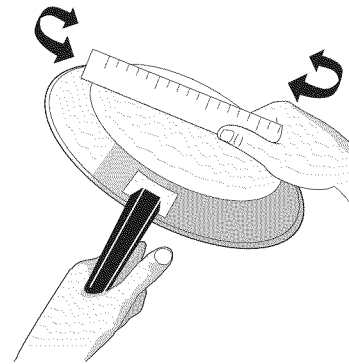

Fig. 2
The cookware used with the Induction Cooktop should have flat bottoms that make good contact with the entire surface of the Cooking Zone. Check for flatness by rotating a ruler across the bottom of the cookware (See Fig. 2). Be sure to follow all the recommendations for using cookware.
- Use cookware made with the correct material type for Induction Cooking (Fig. 2).